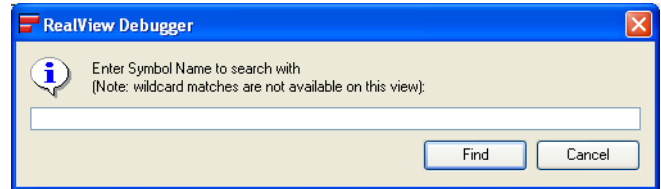

Figure 9-11 Finding a symbol name match
2. Select **Find** → **Find Symbol Name...** from the Analysis window menu to open the Prompt dialog box. Figure 9-11 shows an example: